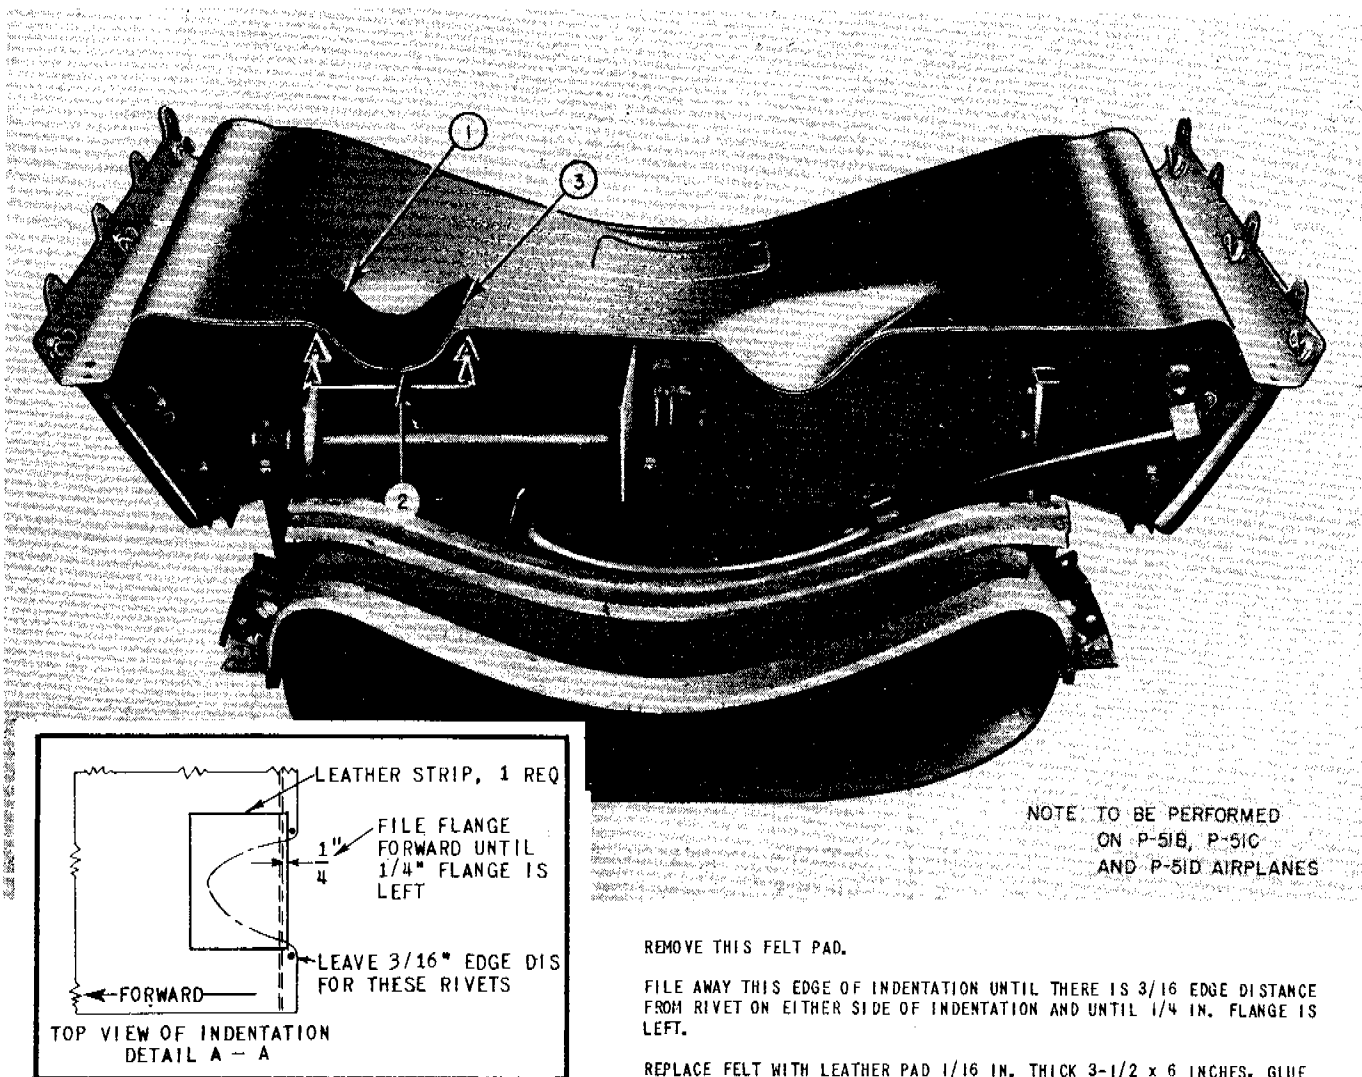

Figure 3 - Rework of Coolant Line Indentation on Filter Section of Carburetor Air Scoop - Looking Forward
o. After locating the indentation for the coolant line on the left rear portion of the carburetor air scoop filter, remove the felt pad and file the edge of the indentation forward until there is 3/16-inch clearance for the existing rivets and a minimum 1/4-inch flange remains. (See figure 3.)